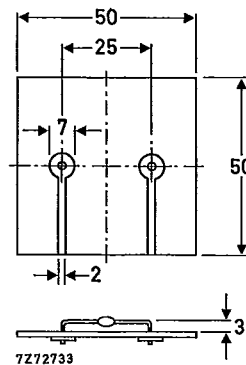

Fig.3 Mounting on pcb used for Rth measurement.
device mounted as Fig.3,  $T_{amb} = 25^\circ\text{C}$  $P_{tot}$
a. mounted as Fig.3
2. Junction to ambient thermal resistance, mounted as Fig.3